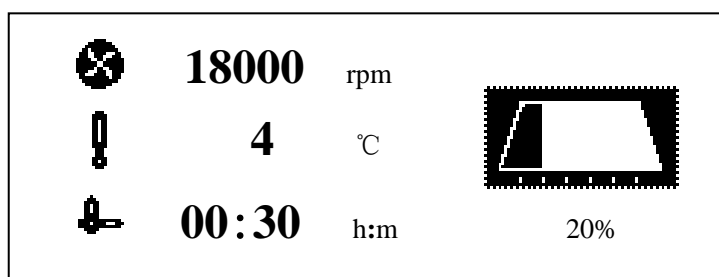

Figure 7-4 Processing Screen
(2) Press  button again, start running.
- After accelerating for 8 seconds, the interface will display the processing screen, see the Figure 7-4.